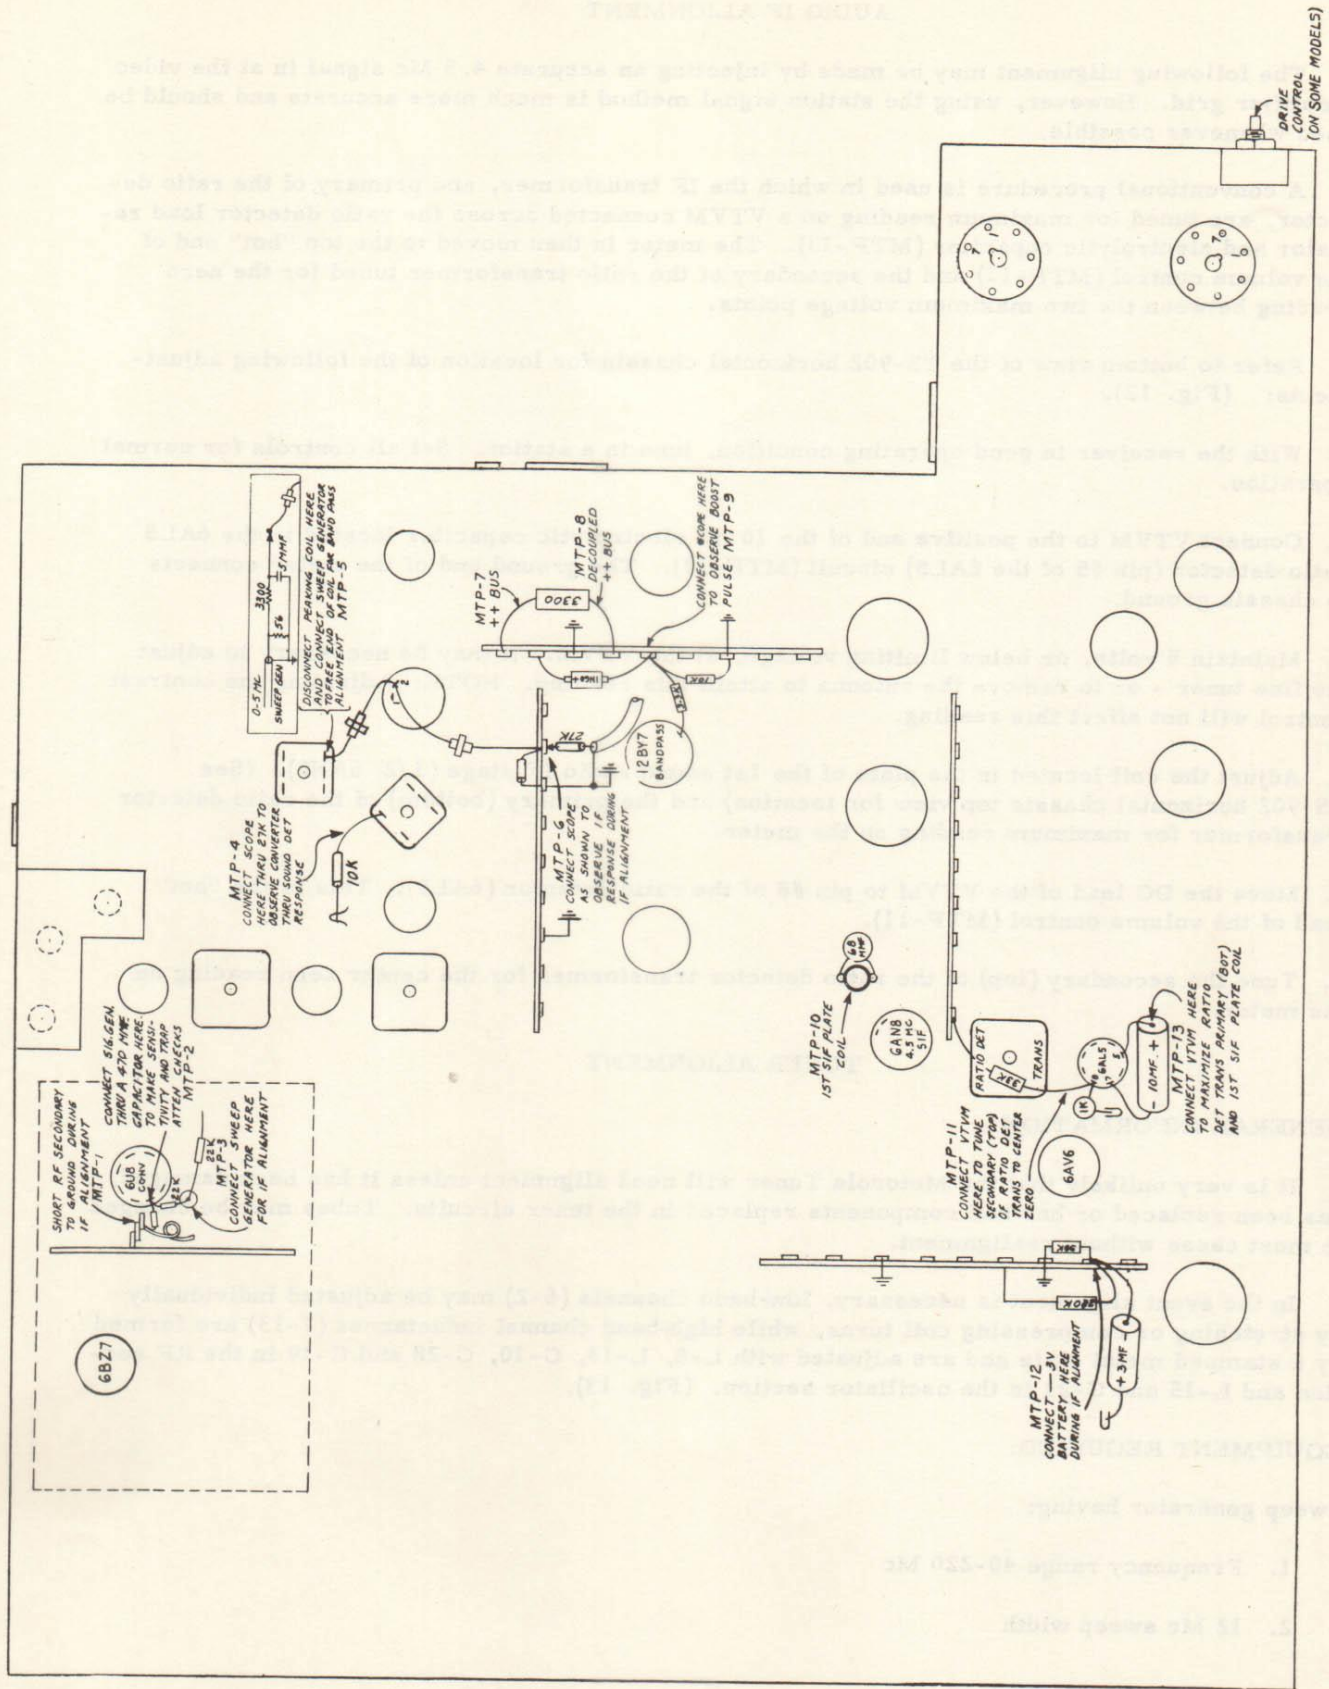

FIGURE 12. TS-902 HORIZONTAL CHASSIS (BOTTOM VIEW)
- B. Connect bias battery to place negative 3 volts on the IF AGC bus (MTP-12) or pin #1 of the SERVICE TEST RECEPTACLE (see bottom view of TS-902 horizontal chassis).(Fig. 12).
Refer to bottom view of the TS-902 horizontal chassis for location of the following adjustments: (Fig. 12).